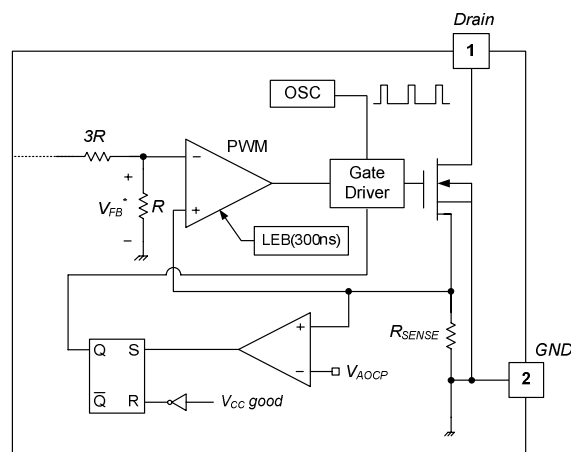

Figure 21. Abnormal Over-Current Protection
4.2 Abnormal Over-Current Protection (AOCP): When the secondary rectifier diodes or the transformer pins are shorted, a steep current with extremely high di/dt can flow through the SenseFET during the minimum turn-on time. Even though the FSGM0565RB has overload protection, it is not enough to protect the FSGM0565RB in that abnormal case; since severe current stress is imposed on the SenseFET until OLP is triggered. The FSGM0565RB internal AOCP circuit is shown in Figure 21. When the gate turn-on signal is applied to the power SenseFET, the AOCP block is enabled and monitors the current through the sensing resistor. The voltage across the resistor is compared with a preset AOCP level. If the sensing resistor voltage is greater than the AOCP level, the set signal is applied to the S-R latch, resulting in the shutdown of the SMPS.